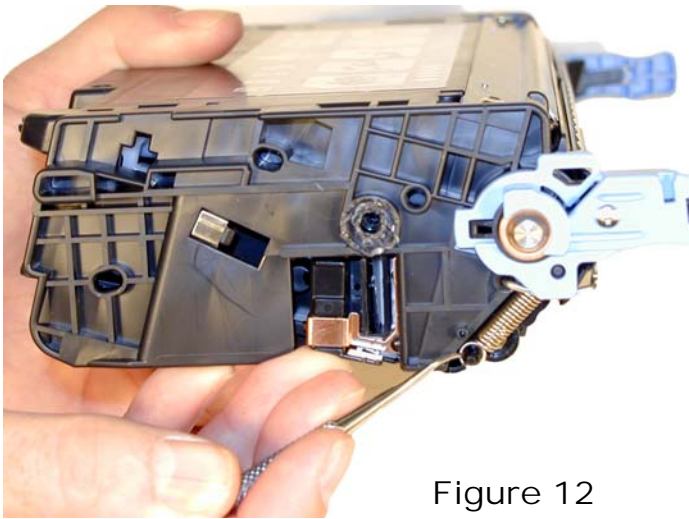

Figure 12
2) Remove the 2 springs, one from each side. See **Figures 12 & 13**